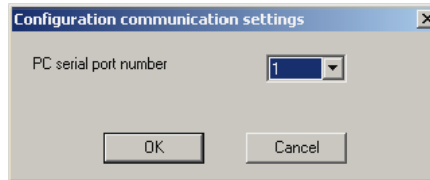

Figure 2: Communication Port Settings
2. Select **Configuration → Com setup** from the menu bar. The serial communication port dialog box appears (see Figure 2: Communication Port Settings).